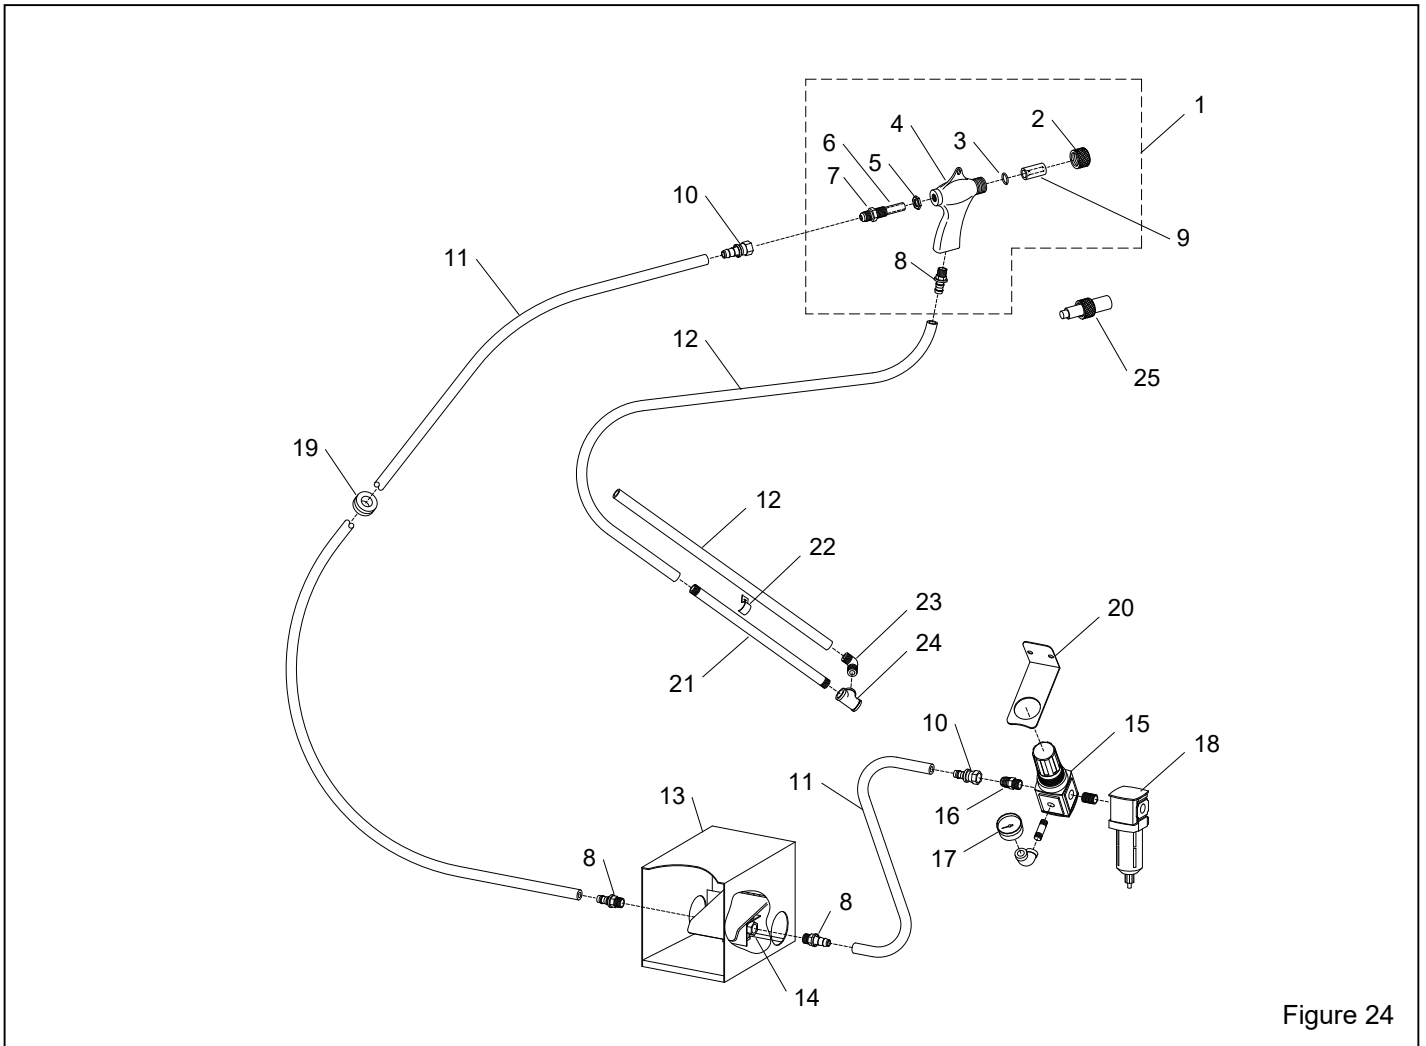

Figure 24
**10.9.2** Make sure the air hose and media hose are not reversed on the gun; the green air hose attaches to the back of the gun and the clear media hose attaches to the bottom of the gun's grip. Refer to Figure 24.
11.4 Air and Gun and Feed Assembly, Figure 24